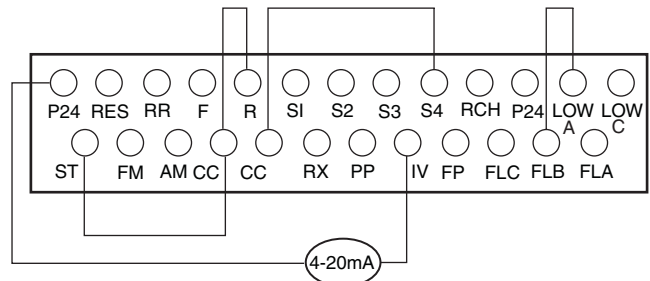

Fig. 58 — Power Exhaust Variable Frequency Drive Terminal Block
1. Drive enable jumper is installed from terminals ST-CC (factory supplied) (see Fig. 58).